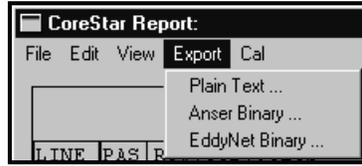

Figure 3-71. Export Menu on Report Editor Dialog
Figure 3-71 shows the contents of the **REPORT > Export** menu, which contains three (3) selections. They are: **Plain Text ...**, **Anser Binary ...**, and **EddyNet Binary ...**